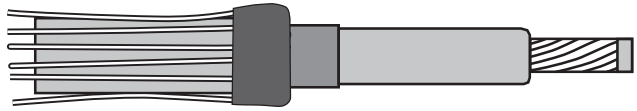

Figure 4. Application of tape to conductor and screen wires
7. Remove vinyl tape from the screen wires. Wrap two half-lapped layers of sealing tape over cable sheath; then pull down the screen wires. (See Figure 4.)